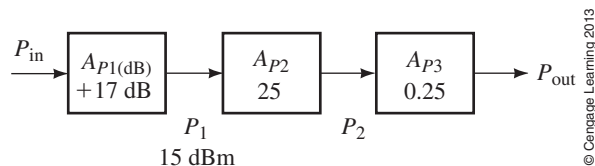

FIGURE 22-49
18. Calculate the power levels (in dBm) at the indicated locations of the system shown in Figure 22-49. Solve for the input and output powers (in watts).